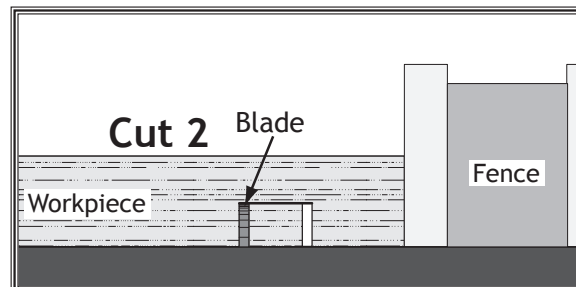

Figure 86. Second cut for a single dado cut.
7. Repeat the cutting operation on the other side of the dado channel, as shown in **Figure 86**.